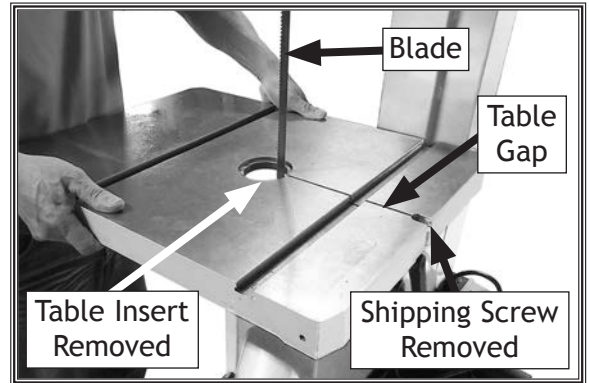

Figure 20. Placing table on saw with gap positioned around blade.
2. Remove protective shipping cover from blade, then remove table insert and shipping screw from table (see **Figure 20**).
3. Place table on saw, sliding table gap around blade (see **Figure 20**).